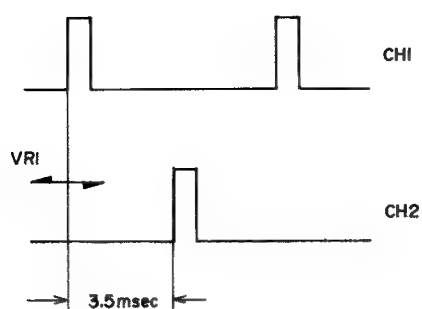
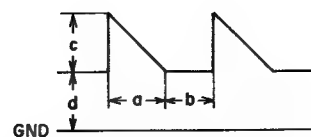

Fig. 16
Fig. 17
- Connect the oscilloscope's CH-1 to P5-② and CH-2 to P5-③.
- Adjust the VR2 (20 k Ω) so that the phase different between CH-1 and CH-2 is 3.5 msec as shown in Fig. 16.
- Connect the oscilloscope to P5-④.
- Adjust VR1 (500 k Ω) and VR2 (20 k Ω) so that the $a=b$ and $c=d$ as shown in Fig. 17.